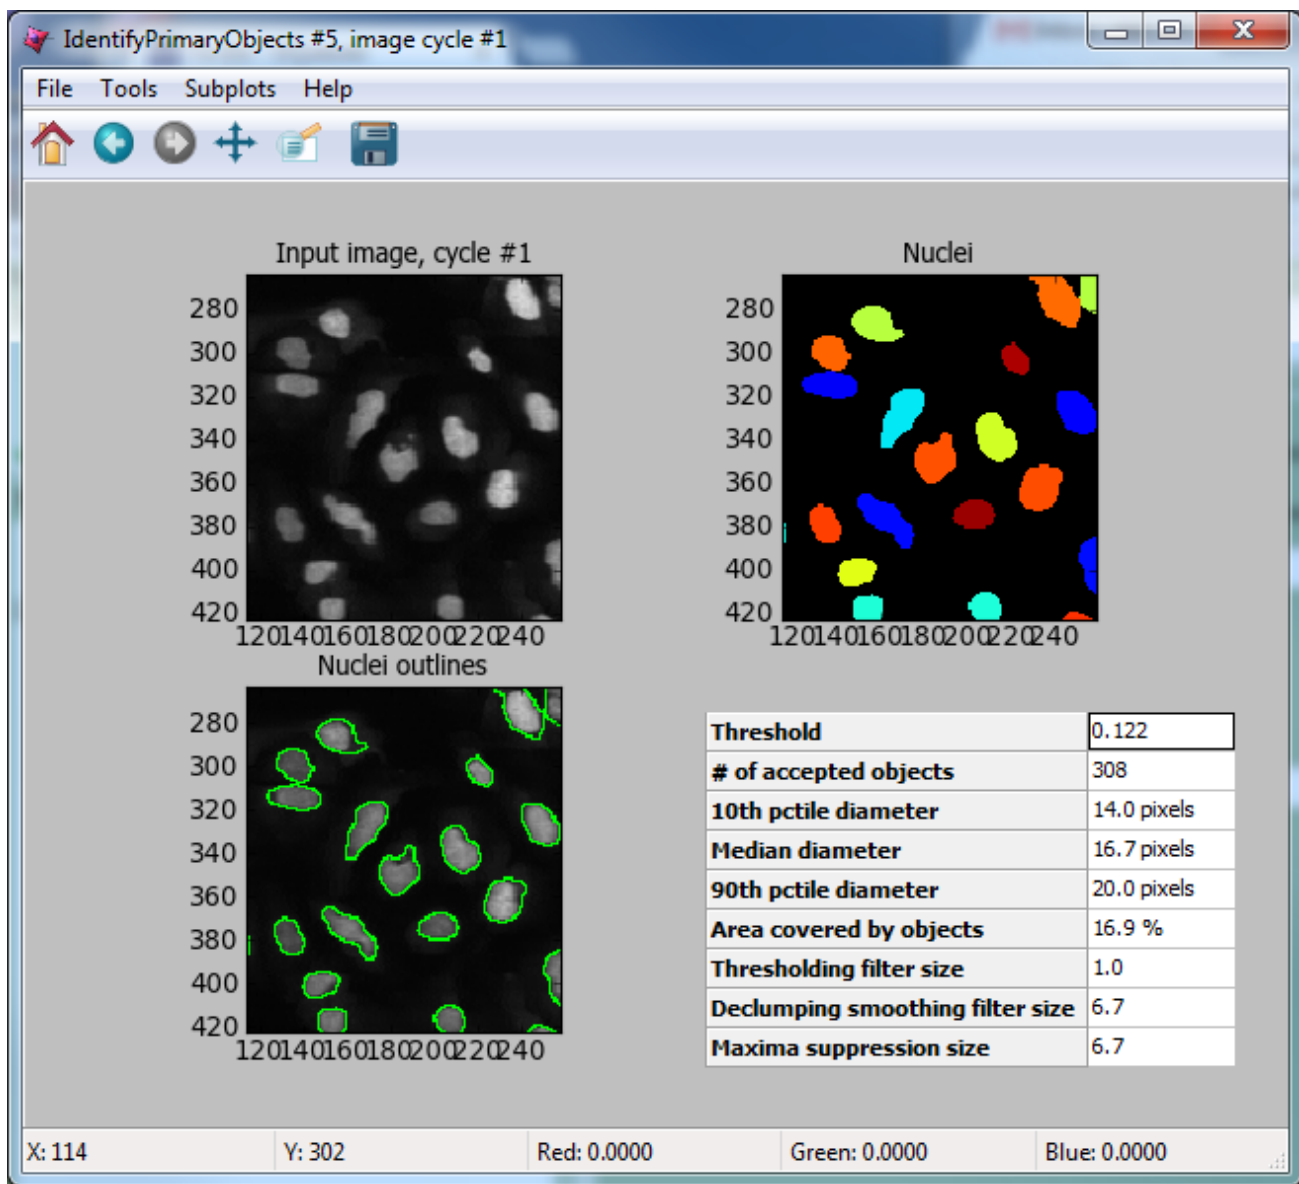

Figure 3: A zoomed-in view of the display window for *IdentifyPrimaryObjects*
- Zoom in the image in order to see the quality of the nuclei identification. The result may look like Figure 3.
In this instance, in Figure 3, you can see that the outlines capture too much of the background around the nuclei. This means that the default automated thresholding method calculated a threshold value that is too low. We can correct this with a change in the thresholding method used. Since we are in Test Mode, we can easily adjust the module settings and quickly preview the results.